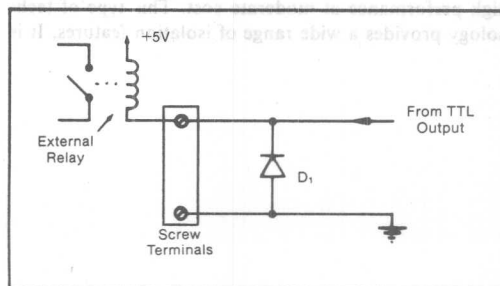

FIGURE 8.7. Relay Driving Circuit.
**Relay Driving**—Figure 8.7 shows how a TTL output is connected to drive an external relay coil. The diode,  $D_1$ , protects the internal circuit against the inductive ‘kick-back’ from the relay coil. Without the diode, the resulting high voltage spikes will damage the digital port. Note that the direction or polarity of the diode must be as shown in the diagram. Protection diodes must be able to respond very quickly and be able to safely absorb the coil's energy. Most standard ‘switching’ diodes fill these needs.